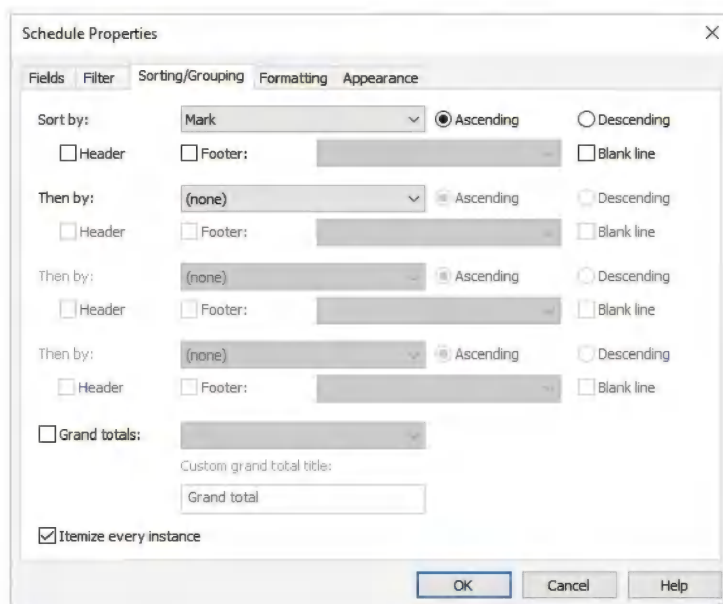

FIGURE 12-2.3 Schedule Properties – Sorting
5. On the **Sorting/Grouping** tab, set the schedule to be sorted by the Mark (i.e., door number) in ascending order (Figure 12-2.3).